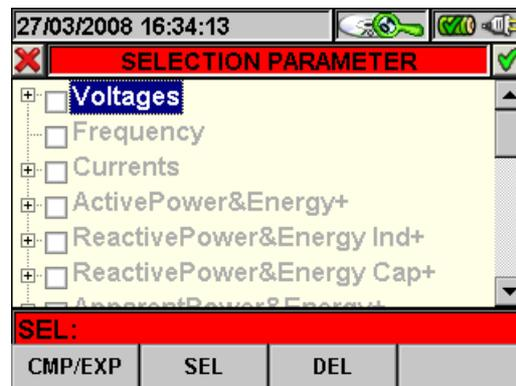

Fig. 157: Parameter selection
1. Press the **F1** key (or the **PARAM** item on the display) to access the page containing the recorded quantities available for the analysis (Fig. 157).
- **F1** key (or **PARAM** item on the display) to access the page of the selectable parameters (Fig. 157).